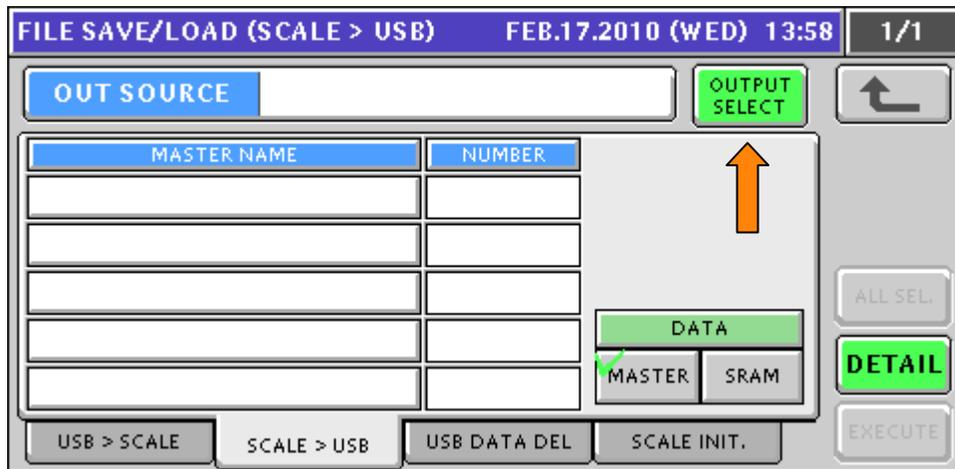

Figure 6.1. Memory Output to USB Memory Stick
7. Press the **SCALE > USB** tab. See Figure 6.1.